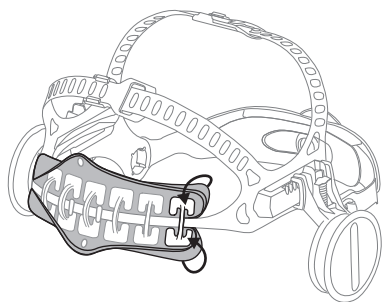

Fig. 18a
- b. Place the new sweatband corners around its retainer (Fig. 18a).